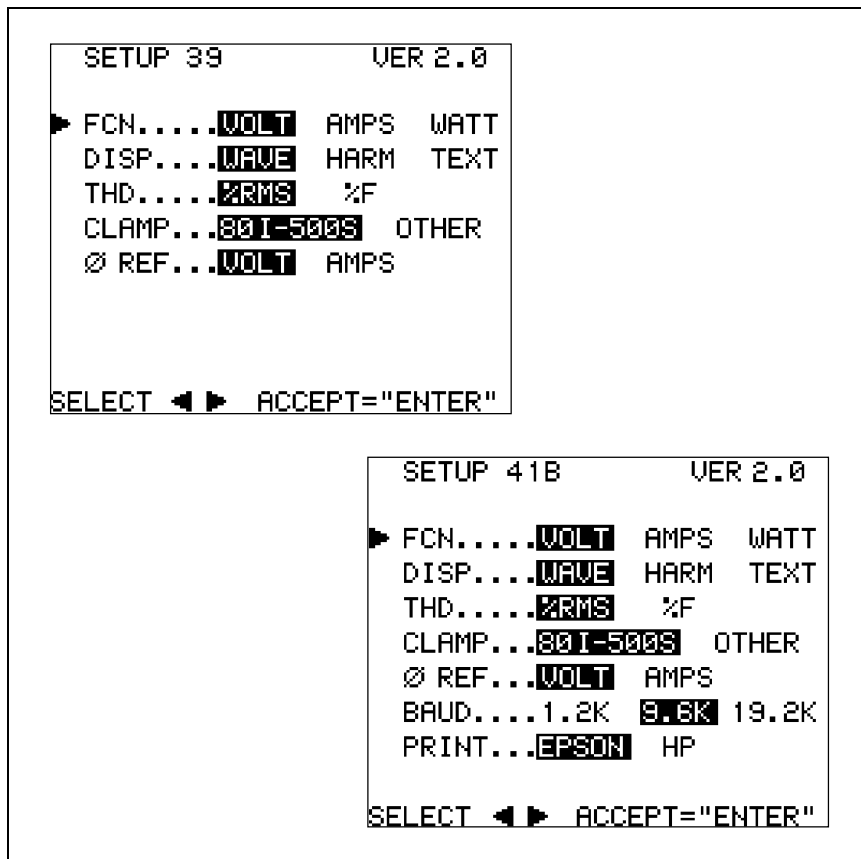

Figure 17. Configuration Screens
1. Press  while pressing  to turn the Tester on. The configuration screen appears. (See Figure 17.)